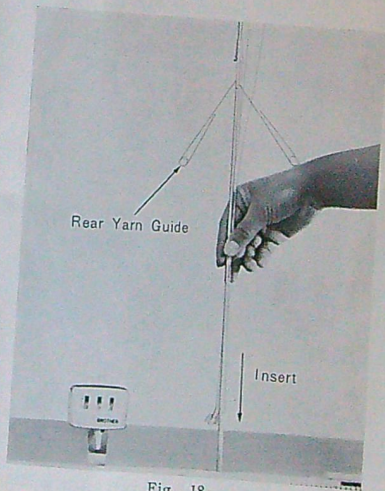

Fig. 18
- b. Fit the end of the rod into the stand hole at the center of knitter with the rear yarn guides away from you. (See Fig. 18)